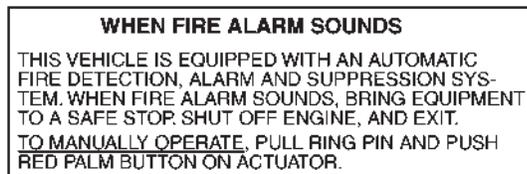

FIGURE 40
9. If a vehicle shutdown device is NOT installed, affix the "WHEN FIRE ALARM SOUNDS" nameplate, Part No. 71086, near the operator's line of vision. See Figure 40.